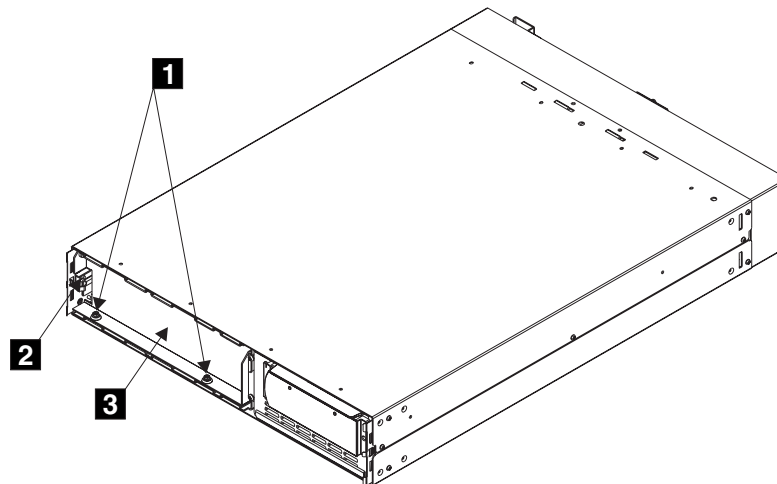

Figure 311. Fastening the battery retaining bracket
- a. Replace the battery retaining bracket (**3** in Figure 311).